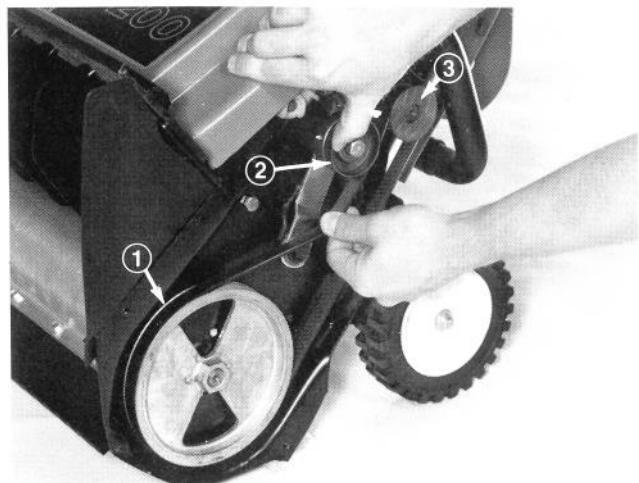

Figure 14
3. Move idler pulley up and pull drive belt out (Fig. 14) so it is free; then allow spring loaded idler to release, but do not let idler pulley snap.
4. Remove drive belt from impeller pulley and engine pulley (Fig. 14).